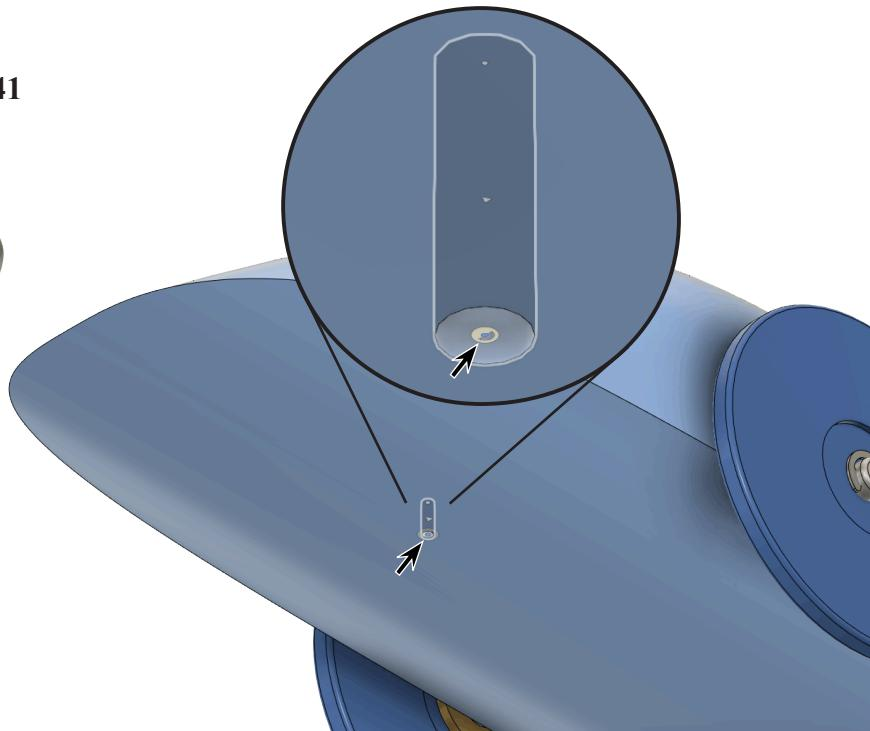

Fig. 40
Step 4. On the Solid tab **SOLID** click Joint  (J) in the Assembly area of toolbar.
Step 5. Click cylindrical edge at end of sweep on the Eye Screw for Joint Origin  and edge of front eye screw hole in Body for Joint Origin  , Fig. 40.